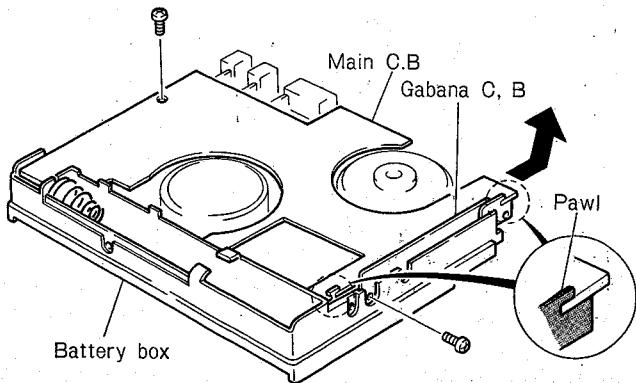

Fig. 3
- 2) Remove the battery box, governor circuit board and main circuit board, beforehand. (See Figure 3)